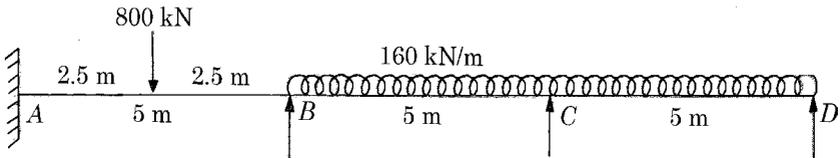

Fig. 2.1.
- (b) The continuous beam shown in fig. 2.1 is subjected to the collapse load system. Each span has a uniform section. If under the action of the collapse load system, all the spans should collapse. Determine the plastic moment required for each span. Assume that the section for the middle span is the lightest.